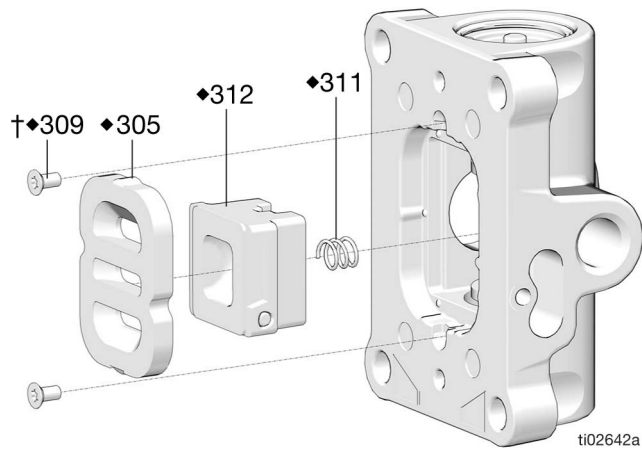

FIG. 14. Pneumatic Plate Removal
3. Remove the valve plate (305♦), the cup (312♦), and the spring (311♦) (FIG. 14).